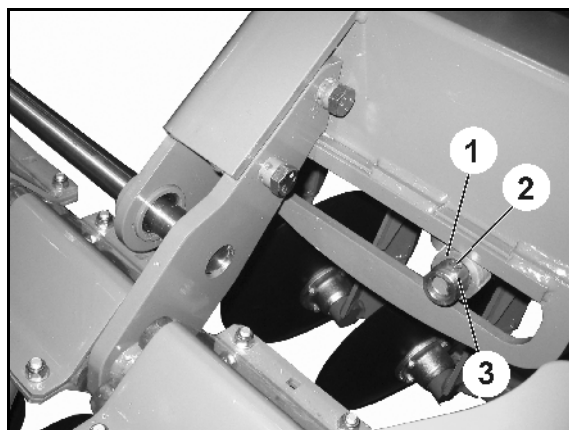

Fig. 48
To replace the roller (Fig. 48/1), place the folded-out machine down so that the roller is free from tension.
1. Release screw union (Fig. 48/2).
2. Withdraw sleeve (Fig. 48/3).